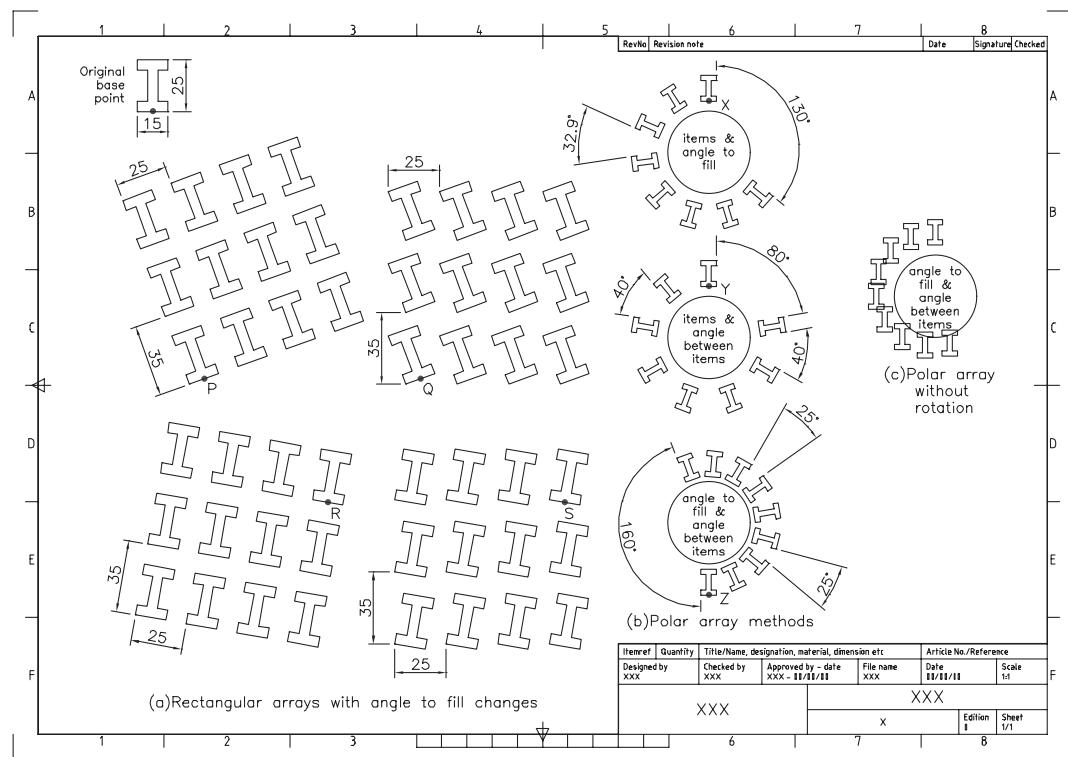

Figure 22.4 The ARRAY options.
b) Refer to Figure 22.4.
8 The result of the four rectangular operations is Figure 22.4(a).
10 The results of these three operations is Figure 22.4(b).
- d) Try the polar array operations with no rotate items as copied – Figure 22.4(c) displays one operation.